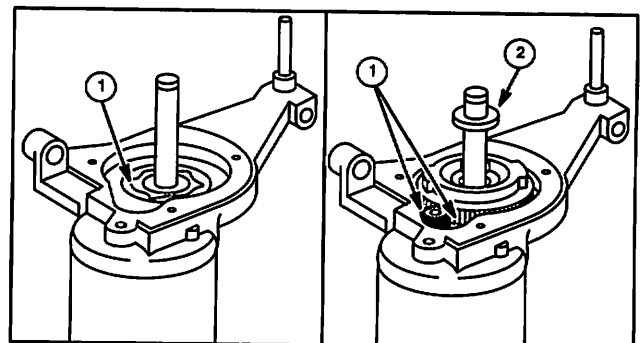

Fig. 39
11. Add approximately 3/4 ounce (22 ml) of high temperature gear lubricant under large gear and on gear teeth (1), Fig. 39.
13. Install washer, gasket and cover, Fig. 39 (System 3®, 4®).